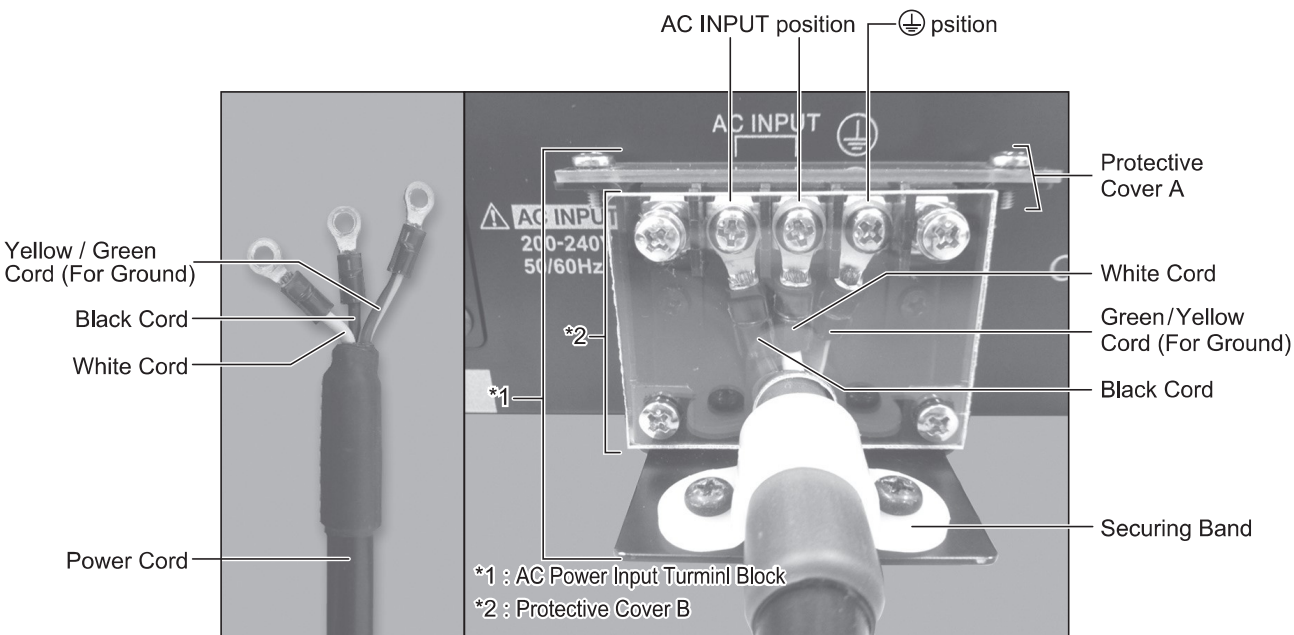

Fig.15
- (1) Loosen the mounting screws located on Protective Covers A , B and the Securing Band. Remove Protective Covers A , B and the Securing Band from the rear of the **CONTROLLER**.
- (2) The round terminal lugs are attached to the one side of the Power Cord. Remove the Terminal Screw from the AC Power Input Terminal Block. Make sure to connect the round terminal to the AC Power Input Terminal Block securely. (Table 2, Fig. 15)
- (3) After connecting the Terminal Screw to the AC Power Input Terminal Block, be sure to securely tighten the Terminal Screws.
- (4) Re-Attach the Protective Covers A and B to the AC Power Input Terminal Block by using the original mounting screws.
- (5) Secure the Power Cord using the Securing Band and Mounting Screw.